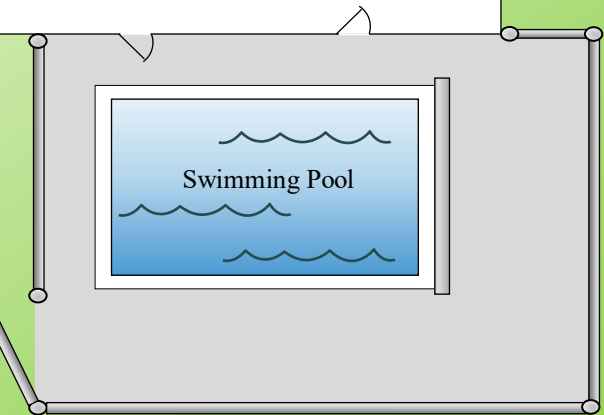

Figure 11- Safety Cover Option
1. The pool shall be equipped with a power safety cover in compliance with ASTM F 1346-91. (See Figure 11)